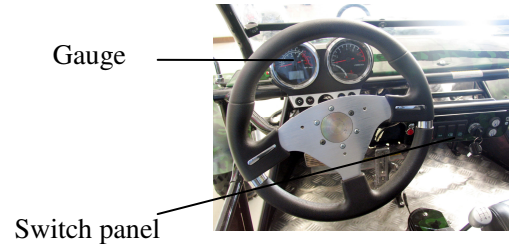

Fig 4
(Fig 4)
- (2) Light switch is located on the right side of steering wheel. Horn button is located on the right side of steering wheel (Fig 4)
- (3) Fuel tank